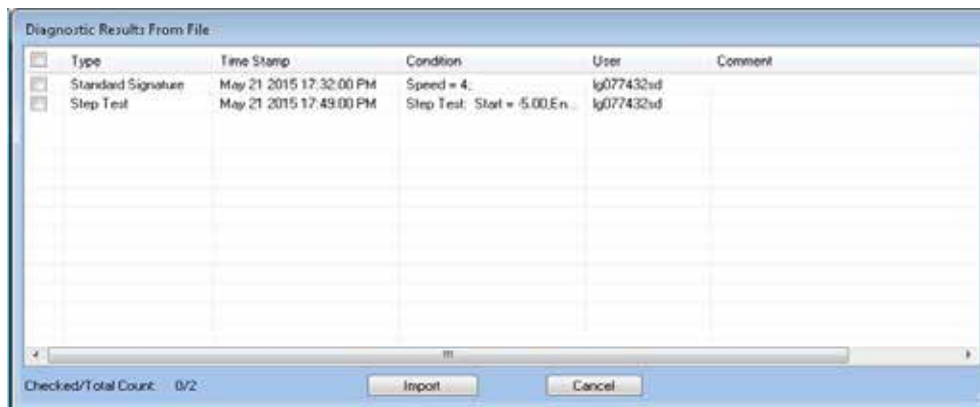

Figure 101 Diagnostic Results From File
2. Select the file and click **Open** and Figure 101 appears.